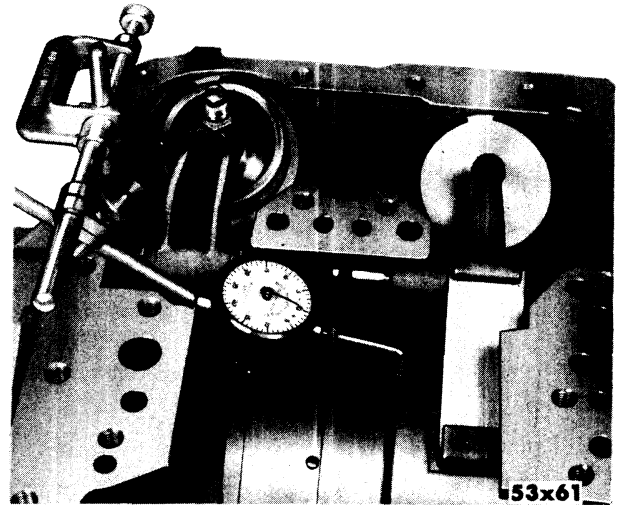

Fig. 73—Checking Transmission End Clearance With Tool C-430
- (9) Check transmission end clearance with either a dial indicator, Tool C-430, or feeler gauge, as shown in Figure 73. To make this check, first measure the distance between the direct clutch assembly and carrier housing when clutch is in rearward position. Pry the clutch forward by carefully inserting screwdriver between the direct clutch and carrier housing. Remove screwdriver and measure again. Limits are .026 to .052 inch.